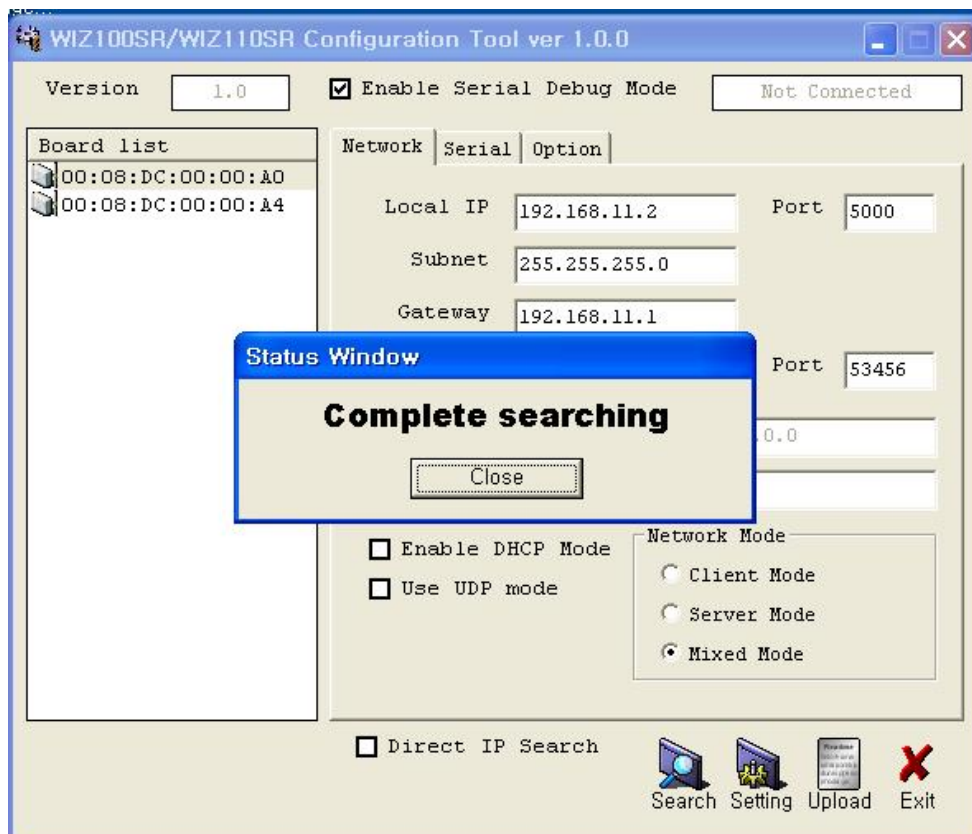

Fig 10 Board Search Window
- ① Run 'WIZ100SR/WIZ110SR Configuration Tool' program, and click "Search" button.
- ② If the module is properly connected to the network, "Searching Complete" message and MAC address will be displayed on the "Board List" as shown in Fig.10.
⚠ Before uploading through Ethernet, you should set the network information of WIZ100SR first by Configuration Tool program as shown above Fig 10. By using Ping test, you can check if network is correctly configured.